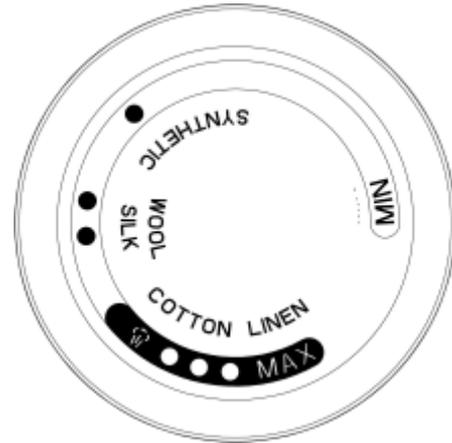

Figure2
3. Connect plug to outlet and turn temperature dial to your desired setting, which is depended on the fabric of garment. And indicator light will be illuminated. Refer to Fig.2 and IRONING TIPS latter.